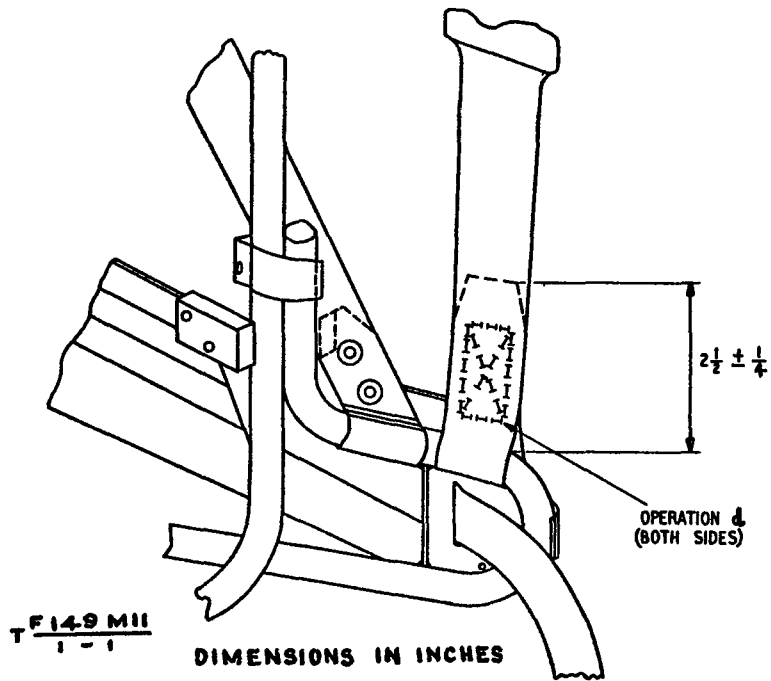

Fig 1 - Temporary modification assembly
- d. Wrap the end of the shoulder straps around the frame, positioned round the curved part of the frame in front of the welded plate, and secure by stitching using rotproofed thread, or by suitable rivets and washers, (see Fig 1).